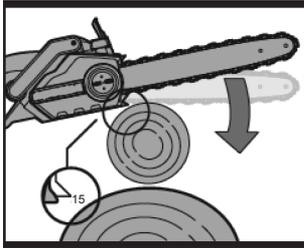

Fig. 20
- The chain must be running at full speed before it makes contact with the wood. Use the metal gripping teeth to secure the saw onto the wood before starting to cut. Use the spiked bumper (15) as a leverage point while cutting. (See Fig.20)